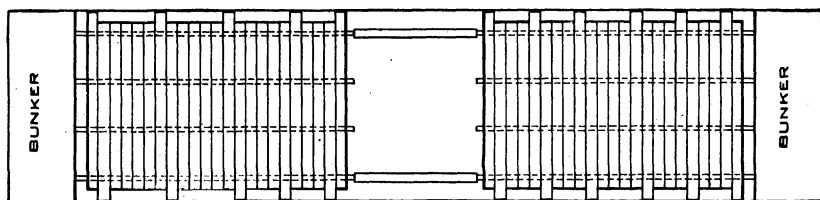
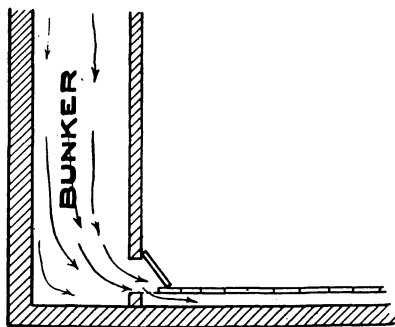

FIG. 18.—False floor (option (b) of paragraph 8).
FIG. 22.—Keep this space open.
5. Nail good 1-inch boards, or heavier, across the stringers, making a solid false floor from the door posts to within 6 inches of the ice-bunker bulkheads. (Fig. 18.) It is important that this 6-inch space between the ends of the false floors and the bulkheads be left. This is shown in figure 22. Each board must be well nailed to all four stringers to keep them from turning on side. At least occasional boards must extend to each side wall to keep the false floor from shifting sidewise.
used to give this protection at the bulkheads, care must be taken to leave the opening for ventilation 4 inches in the clear from the bunker through the ventilation opening and under the false floor. (Fig. 22.)